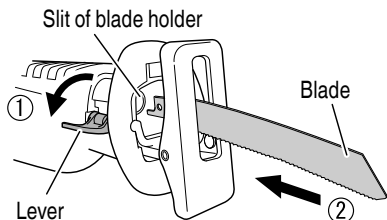
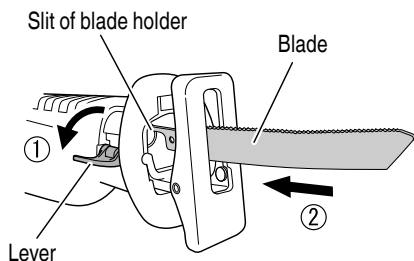

Fig. 9
Fig. 10
- (1) Pivot the lever to open the blade clamp.
- (2) Insert the saw blade all the way into the small slit of the blade holder with the lever pivoting. You can mount this blade either in the upward or downward direction. (Fig. 9, Fig. 10)